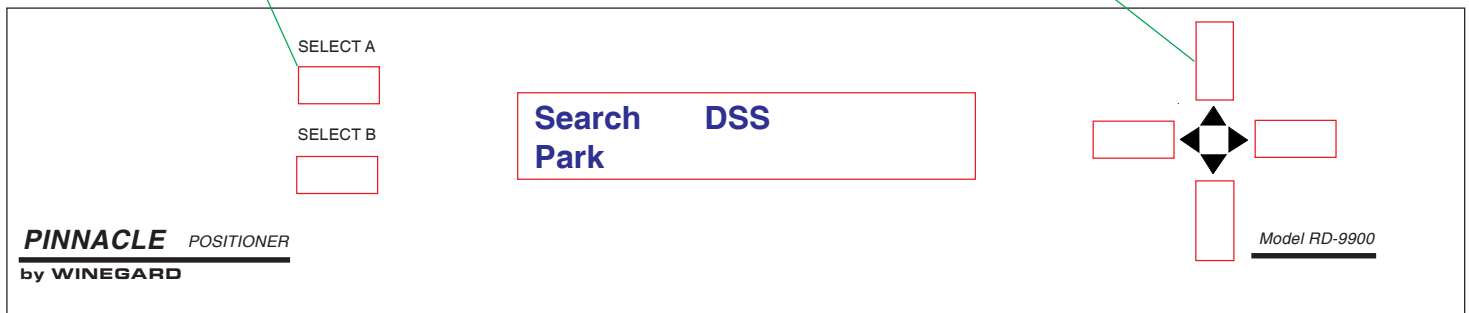

Figure 1
3. On positioner press [UP/DOWN] arrow button until **Search DSS** appears on the positioner screen, Figure 1. If you want to search for a different satellite refer to Edit Menu on page 18 to change search satellites.
4. Press [SELECT A] to enter the search function, Figure 1. (Press [SELECT B] if **Search DSS** is bottom option on screen.
If no satellite is found the message **Satellite Not Found, Press Any Button**, will be displayed by the positioner. Press any button to return to the menu shown in Figure 1, page 4.